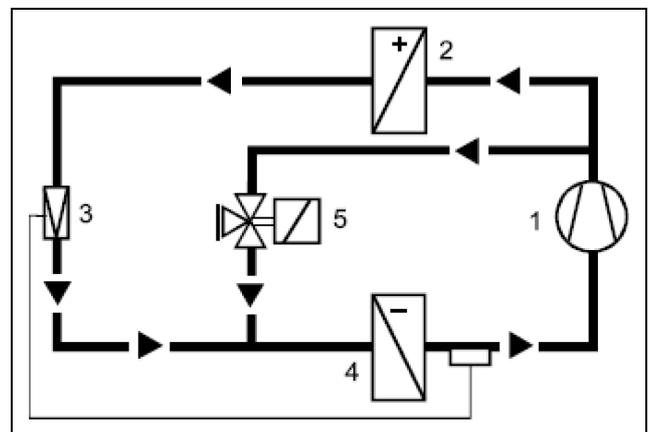

Fig. 43: Cooling circuit with HGBP valve
A hot gas bypass control (hereinafter abbreviated to HGBP) refers to a circuit with a controllable bypass circuit from the high-pressure to the low-pressure side (see P+ID cooling circuit) with an infeed between the expansion valve and the evaporator coil (fig. 43).
The control valve (fig. 43, item 5) in the bypass circuit remains closed when the cooling demand is high. The chiller will then supply its full output. If the required output is reduced, the HGBP valve is continuously opened via the controller. Hot gas will then flow via the bypass circuit to the evaporator coil input (fig. 43, item 4). There, it is mixed with the refrigerant flowing out of the expansion valve and cooled down. As a result, the mixture partially evaporates in the supply line to the evaporator coil, causing the evaporation temperature to rise, and the cooling output to decrease. Overheating of the extracted gas upstream of the compressor is monitored and regulated by the expansion valve.